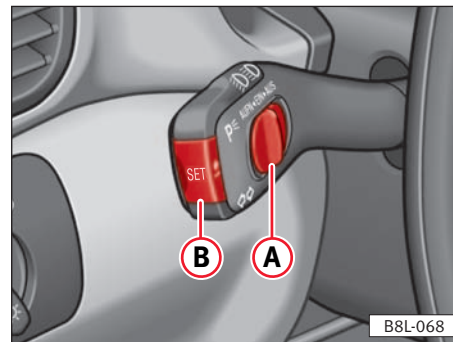

Fig. 148
The system is temporarily switched off when the brake or clutch pedals are used or when the switch ⇒ fig. 148 Ⓐ is moved to AUS (not engaged).
To **resume** the previously stored speed push switch ⇒ fig. 148 Ⓐ fully to the left after the brake or clutch pedals are released.
- Move switch ⇒ fig. 148 Ⓐ fully to the left and hold until the desired speed has been reached. The speed is stored when the switch is released.
- Press button ⇒ fig. 148 Ⓑ briefly. The current speed is stored. ■
The system is **completely switched off** when switch ⇒ fig. 148 Ⓐ is moved entirely to the right (OFF engaged) or when the vehicle is stopped and the ignition is switched off.